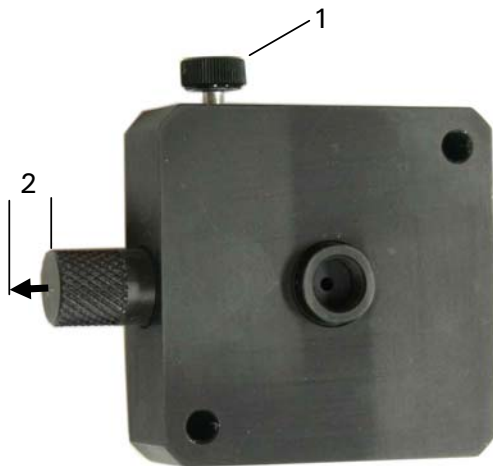

FIGURE 4-2 The Holmium Filter for the UV Detector
- a) Install the holmium filter (FIGURE 4-2) in the UV detector.
- b) Loosen the knurled screw (item 1, FIGURE 4-2) half a turn and pull the filter holder (item 2, FIGURE 4-2) out of the light path (just pull it out by 5 mm (0.2"), the filter holder remains in the filter body).